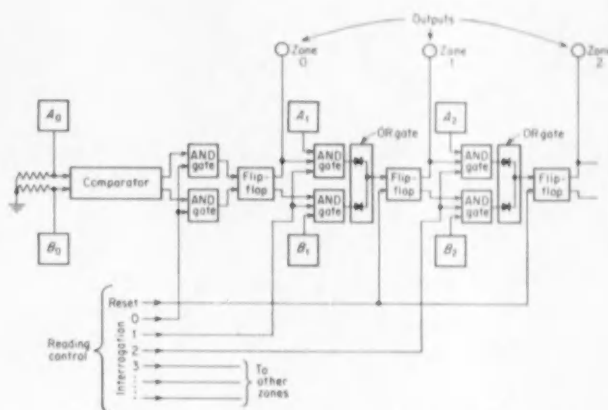

FIG. 10. All-electronic system for reading a scale on the move.
Fast electronic circuitry, such as shown in Figure 10, is necessary for reading under these conditions. This system will hold (store) any previous reading until a reset signal is applied. Then, on being interrogated by a reading control, it will read one digit at a time. The flip-flops can be any kind of bistable element, such as tube or transistor flip-flops, magamps with feedback, magnetic cores or others. The detectors, A_0B_0 , A_1B_1 , etc., are assumed to include amplifiers, which might be shared if both input and output are switched by the reading control.
A reading sequence of Figure 10 starts with a reset pulse that sets all the flip-flops for zones 1 and higher to 0. Photodetectors A_0 and B_0 produce a voltage drop across the resistors to ground, and the comparator determines which voltage drop is larger and sends a voltage to the gate feeding the 1 or the 0 side of the first flip-flop. This voltage is only admitted when the reading control delivers the command "read zone 0". The flip-flop then applies a voltage at the 0-zone terminal if the 1 side is conducting; it applies no voltage if the 0 side is conducting. It also biases either the gate controlling the output of A_1 or the gate controlling B_1 . On command to read zone 1, the biased gate permits either A_1 or B_1 to apply a voltage which changes the state of the 1-zone flip-flop to read 1 (or if no voltage comes from the zone read, the flip-flop is left in the
- ▶ If all the flip-flops after the first one in Figure 10 are made monostable so that they return to 0 when no input is present, and if the interrogation input to the gates is removed, the circuit will recycle continuously if any zone is not satisfied.